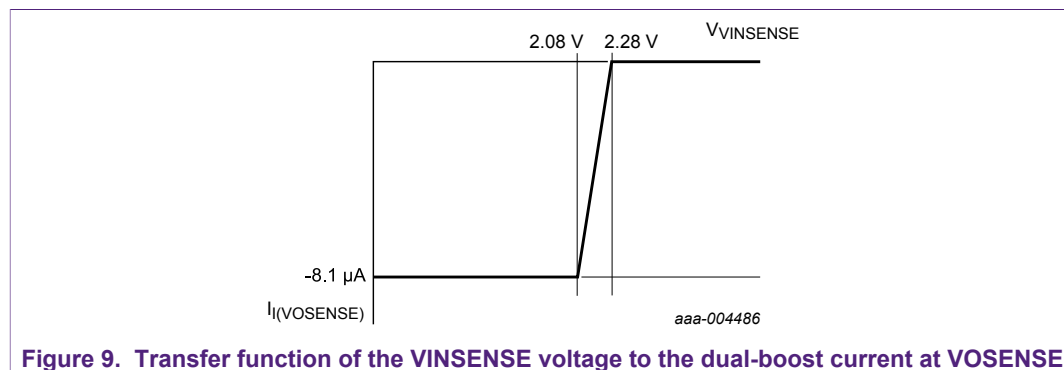

Figure 9. Transfer function of the VINSENSE voltage to the dual-boost current at VOSENSE
An internal current source of 8.1 μA ($I_{bst(dual)}$) on the VOSENSE pin controls the dual-output voltage. The mains input voltage measured at the VINSENSE pin is used to control the internal current source as shown in Figure 9. This current source, in combination with the resistors connected to the VOSENSE pin, sets the lower PFC output voltage. At high mains, the current source is switched off. The maximum PFC output voltage is unaffected by the current source accuracy. In a typical adapter, with a 385 V (DC) PFC output voltage at high mains, the PFC output voltage is 250 V (DC) at low mains. A voltage of 2.3 V at the VINSENSE pin corresponds with a mains input voltage of approximately 170 V (AC). The small slope at the transfer function ensures a stable switchover of the PFC output voltage without hiccups.